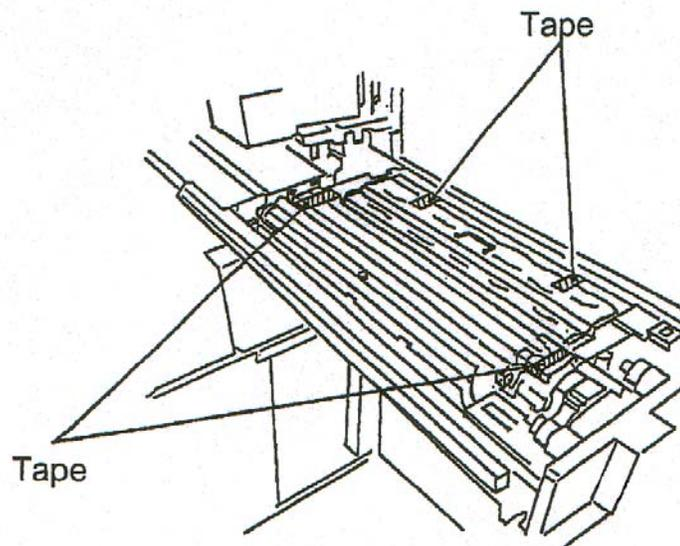

Figure 5-4
2. Remove any pieces of tape and packing material from the EP Drawer (Figure 5-4).